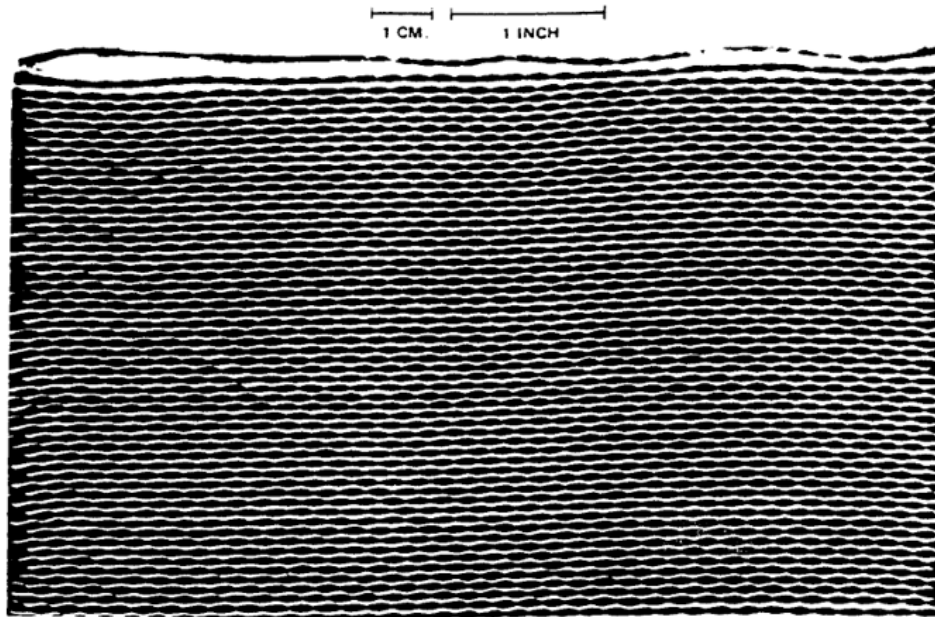

Figure 1-3: Woven Multifilament Geotextile.
- **Multifilament:** Highest strength and cost (See Figure 1-3).